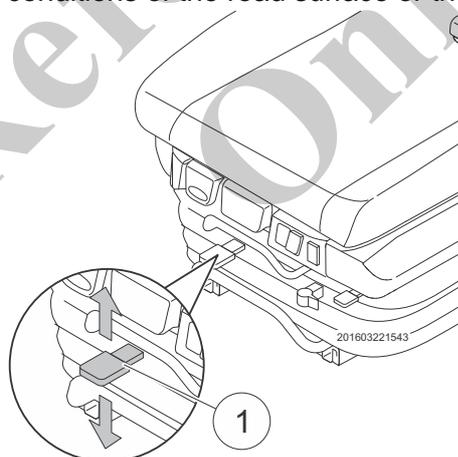

Fig. 56 Adjusting the shock absorbance
- 1 To increase the damping force, move the lever (Fig. 56/1) up.
- 2 To decrease the damping force, move the lever (Fig. 56/1) down.